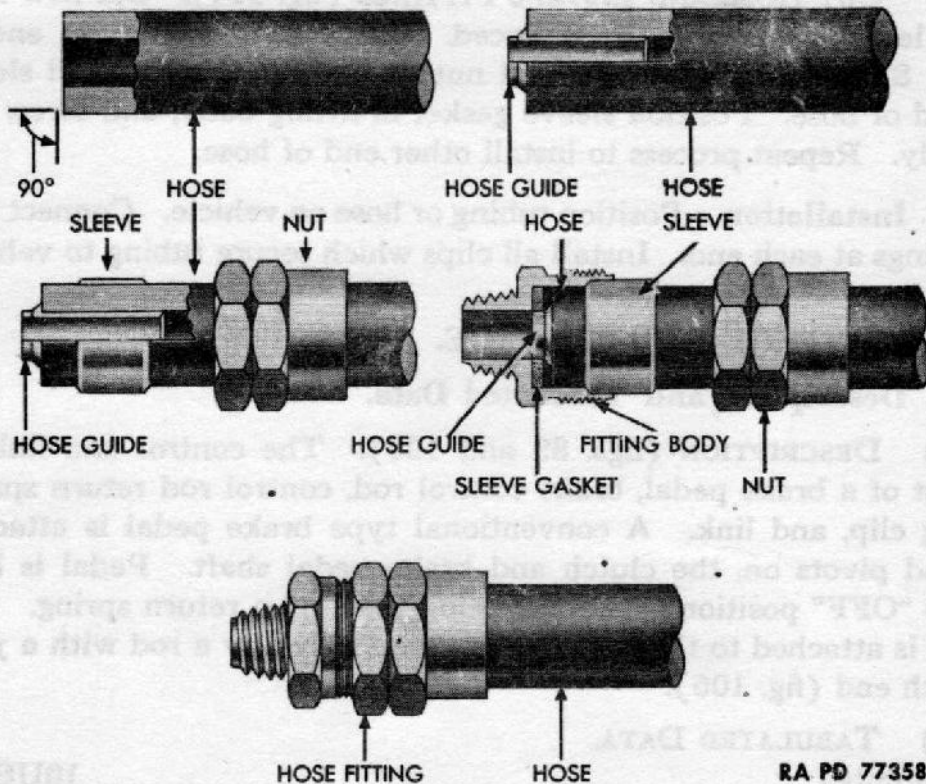

Figure 114 - Installation of Fitting on Hose
(1) CUT TUBING AND INSTALL FITTING (fig. 114). Cut new tubing same length as that being replaced. Cut ends square and smooth with a file. Slide nut and sleeve (ferrule) on each end.
(2) SHAPE TUBING. Bend tubing to shape of original piece. Avoid sharp bends. Bend tubing $\frac{3}{8}$ inch in diameter on a 3-inch radius; tubing $\frac{1}{2}$ inch in diameter on a 4-inch radius.
(3) **CUT HOSE AND INSTALL FITTINGS** (fig. 114). Cut new hose same length as hose to be replaced. Screw hose guide into end of hose. Slide spring (if used) and nut on end of hose. Install sleeve on end of hose. Position sleeve gasket in fitting body, and screw nut to body. Repeat process to install other end of hose.